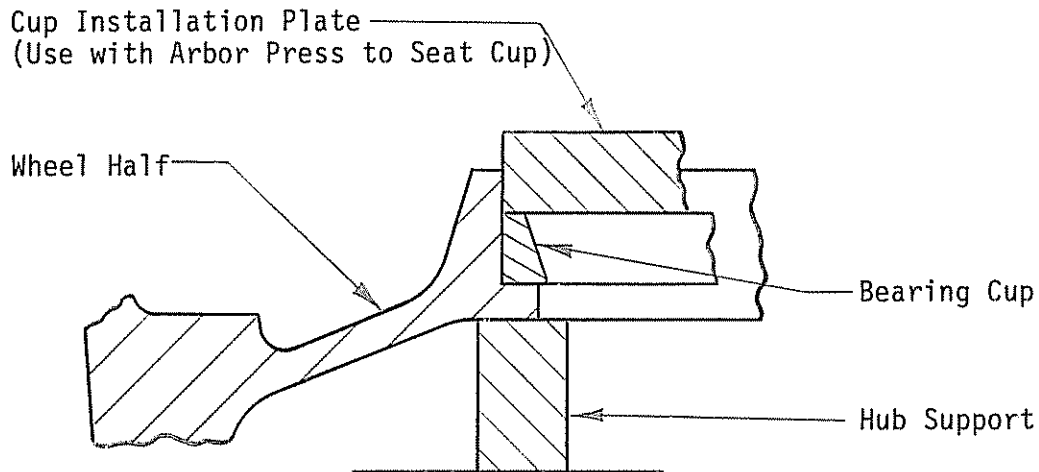

Figure 2 - Supporting Wheel Hub
11.1.4.4.2 Support wheel hub and paint the ID of the hub with zinc chromate primer. Then press cup into wheel half as shown in Figure 2.